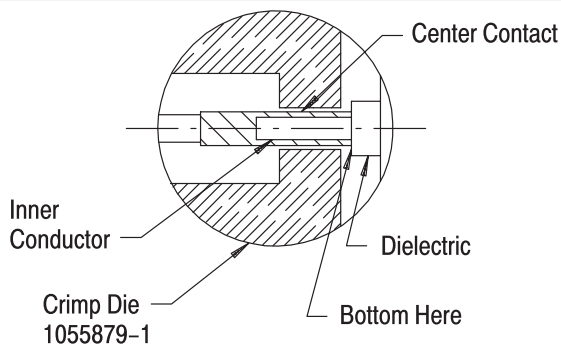

Figure 5
B. Optional Crimping of Center Contact (Figure 5)